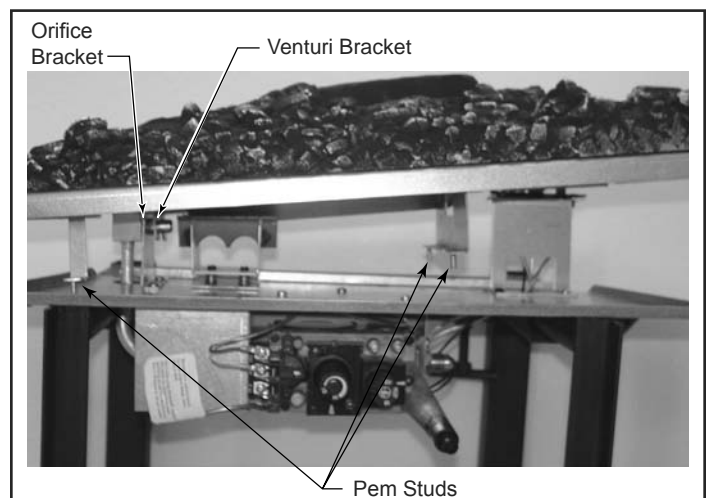

Figure 7.11 - Tilt ember bed slightly to correctly place on venturi and air shutter.
- Carefully remove ember bed by tilting the right side up and lifting out toward the right side of the unit. (Figure 7.11)
Thread and tighten 3/8" nuts back onto pem studs on underneath side of control panel, reversing Step 1 shown in Figure 7.11.